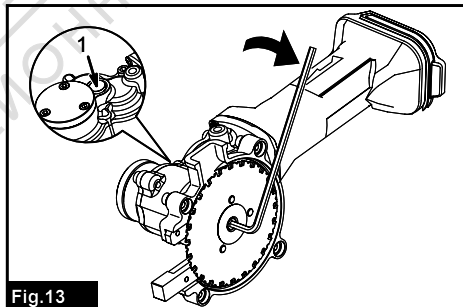

Fig.13
- Fig.13: 1. Push (Lock Button)